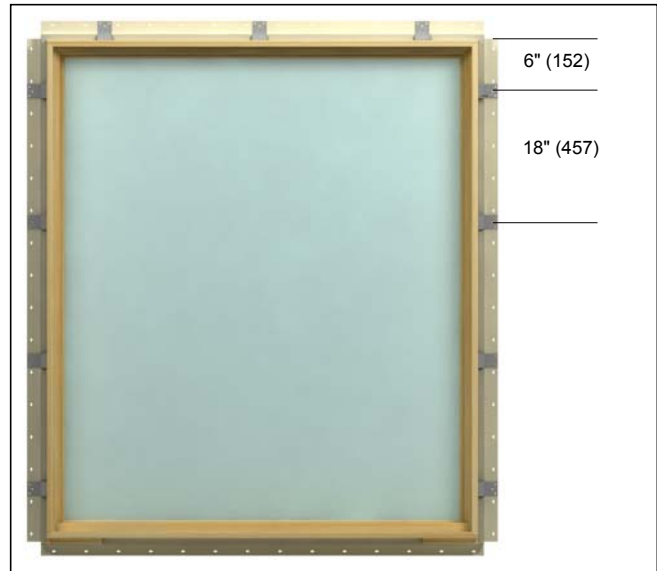

Figure 1
1. Attach clips to the unit jambs and head jamb (and sill for Round Tops) with #7 x 5/8" wood screws 6" (152) maximum from each corner and 18" (457) maximum around the unit perimeter. See figure 1. For IIFD Impact instructions, refer to the Integrity Inswing Installation Instructions.